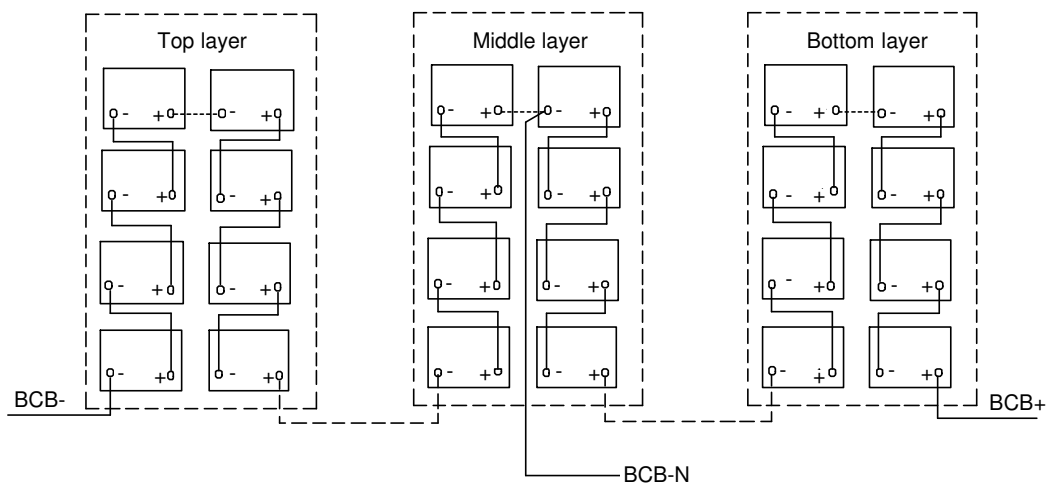
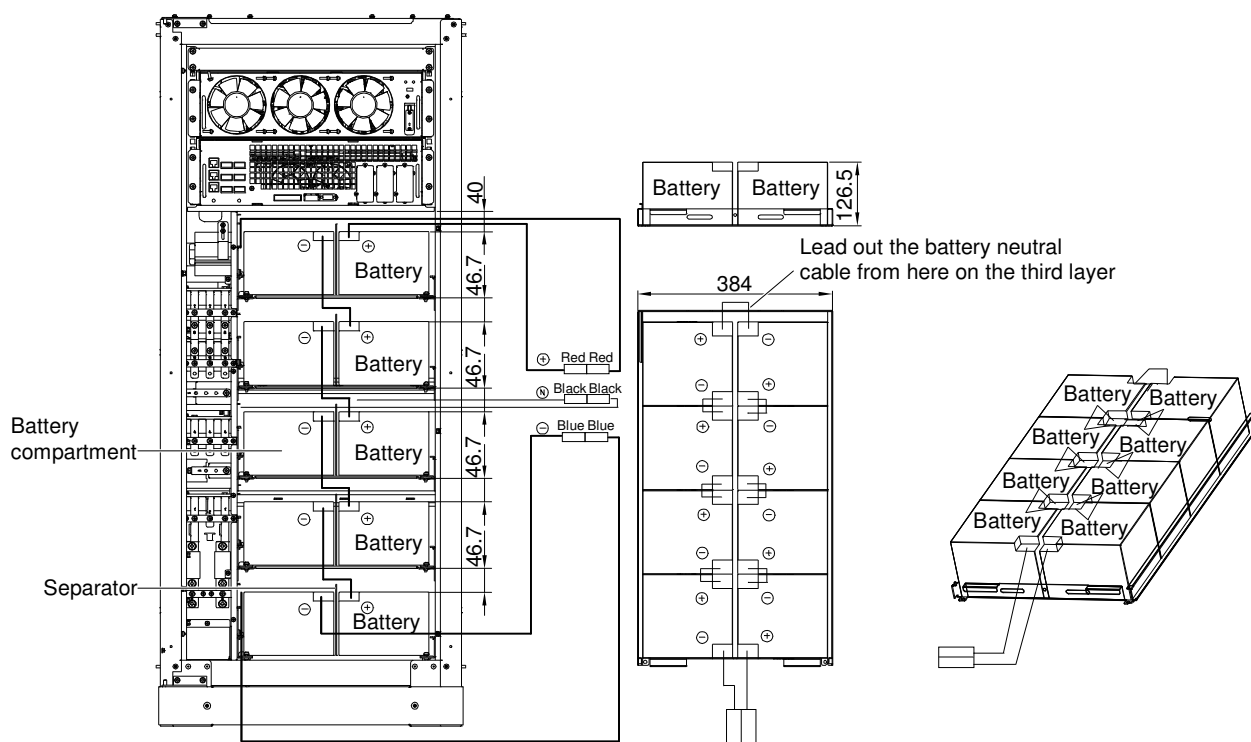
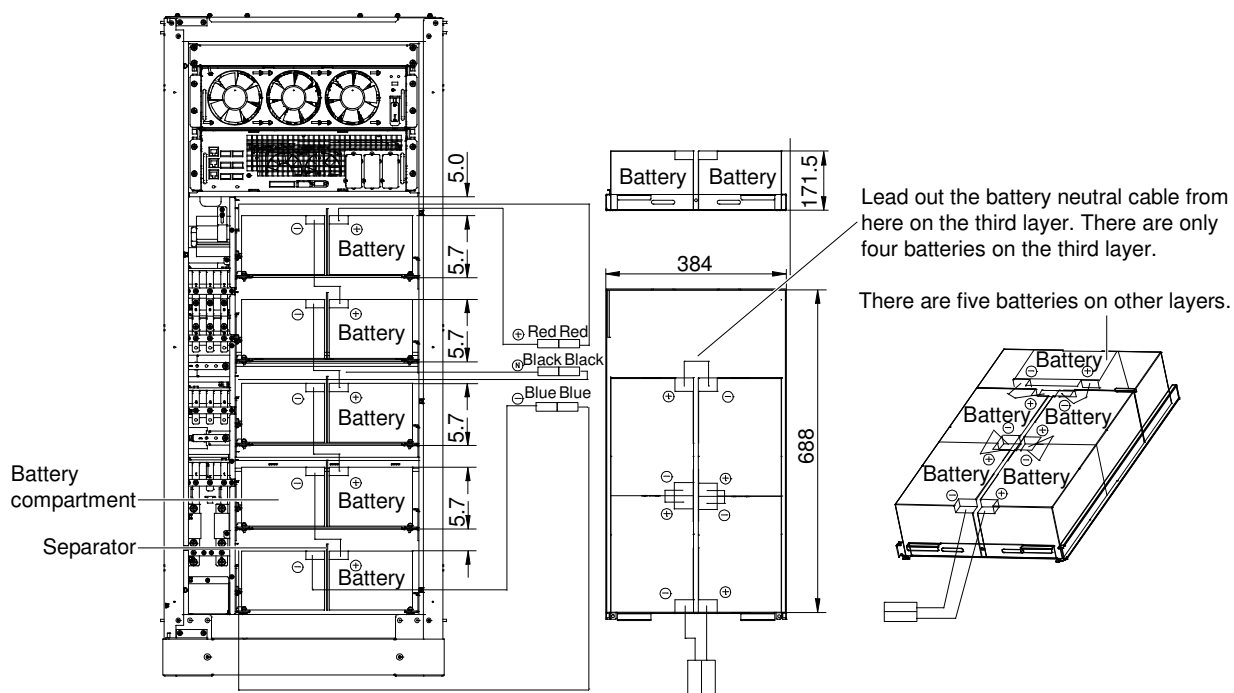

Figure 2-1 External battery cable connection
Figure 2-2 Internal battery cable connection of NXr 30-B@400V UPS
Figure 2-3 Internal battery cable connection of NXr 15kVA@208V UPS
8. Refer to Figure 2-1 to Figure 2-3 for the battery cable connection.
9. For NXr 30-B UPS@400V UPS and NXr 15kVA@208V UPS, it is required to install a separator between the two rows of batteries on each layer of the battery compartment, as shown in Figure 2-2 and Figure 2-3. The separators have been placed in the battery compartment in factory before delivery.